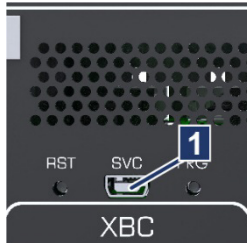

Fig. 7-1: SVC interface
2. Connect the beacon control module to the PC/notebook via the SVC interface (Mini-USB, → Fig. 7-1).